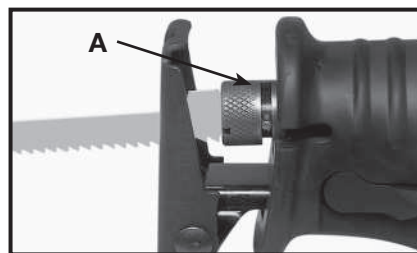

Fig. 4
1. The reciprocating shaft must be fully extended to permit access to the Quik-Change™ blade release collar (A) Fig. 4. If necessary, gently squeeze the trigger switch to move the reciprocating shaft to its outermost position (as shown in Fig. 4).
4. Insert the blade into the clamp until it bottoms. Allow the release collar to rotate clockwise to lock the blade in place, (A) Fig. 4.